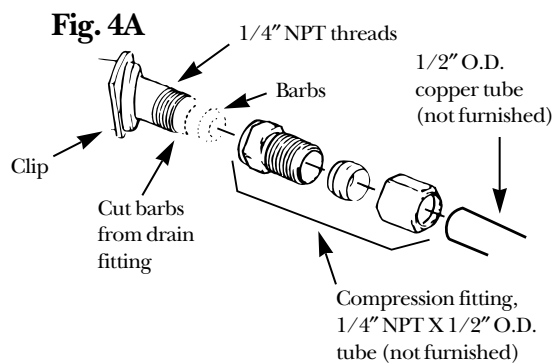

Fig. 5
- Insert the rubber grommet into the 3/4" diameter hole in the brine tank sidewall as shown in Fig. 5.
- Push the end of the hose adapter elbow into the grommet as shown in Fig. 5.